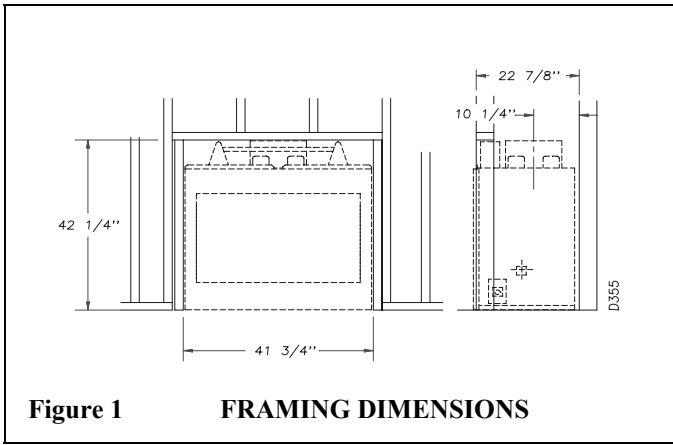

Figure 1 FRAMING DIMENSIONS
STEP 1: Frame the opening for the fireplace using the dimensions shown in FIGURE 1, 2 or 3.